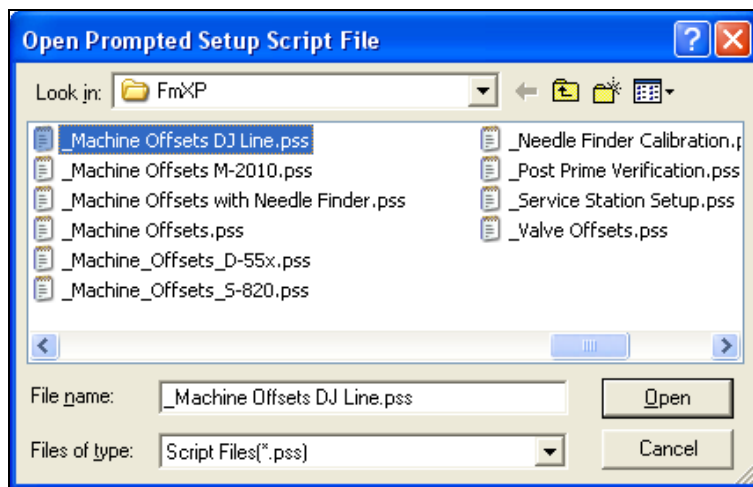

Figure 2-4 Opening a Setup Script File
- d. To select a script file, click on the **Prompted Setup** button to display a list of available script files. See Figure 2-4.